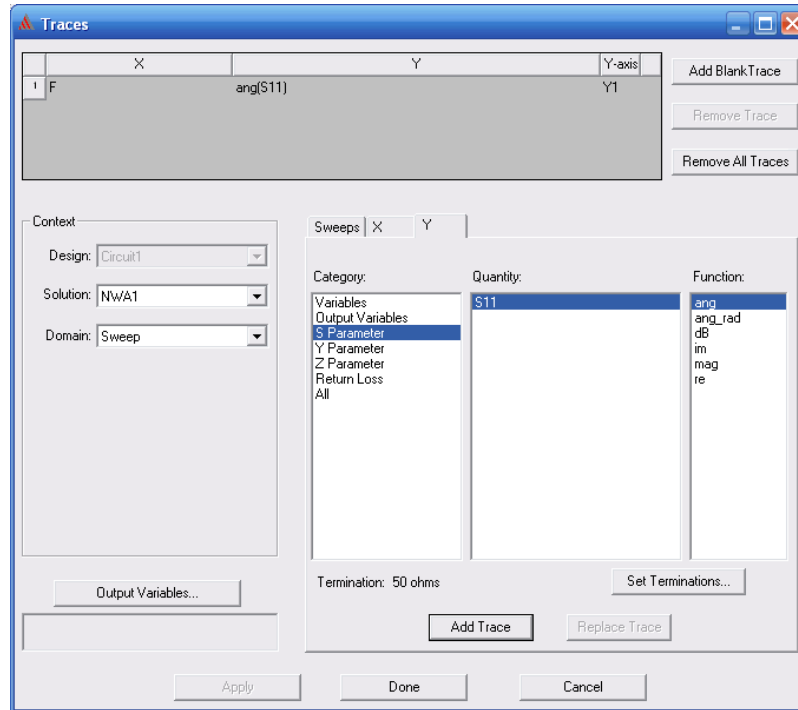

Figure 9. Inserting a trace.
19. The desired trace is the phase of S_{11} in degrees. As shown in Fig. 9, select **S11** and **ang**, then click **Add Trace**. Click **Done**.